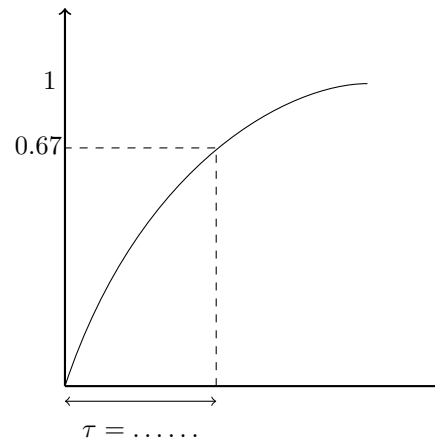

Figure 2: Time constant of an RC circuit.
2.2.2.6 From the simulated plot, enable **Cursors** and read the value of the time constant  $\tau$ . Record the results in Fig.2. **[0.5 marks]**